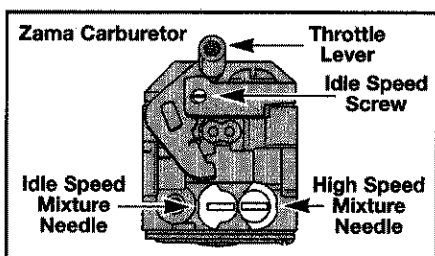

Fig. 26
- b. For Zama carburetors: Back the idle speed screw (Fig. 26) **out, counterclockwise**, until it does not contact the throttle lever. Then turn the screw **in, clockwise**, until it just begins to move the throttle lever; then continue turning 1-1/2 turns.